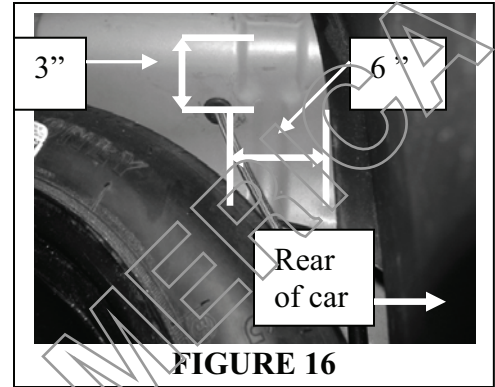

FIGURE 16
29. Remove the spare tire. Drill $\frac{3}{4}$ " hole in spare tire well area of trunk on right side as shown in **FIGURE 16**. Drill hole so its center is 3" from the plane of the bare trunk (the surface above the spare tire well) and 6" from the rear wall of the spare tire well.